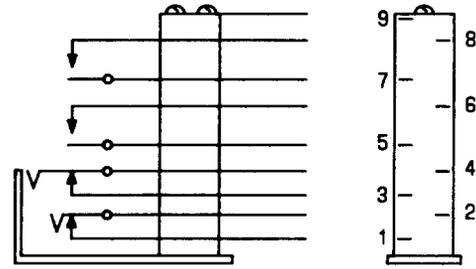

Fig. 11 — KS-21001, L4, Jack
- (d) **KS-21001, L4:** The KS-21001, L4, jack (Fig. 11) contains a tip spring, a ring spring, a break-contact for each spring, and two isolated make contacts actuated by the ring spring, each with wire-wrap terminals.